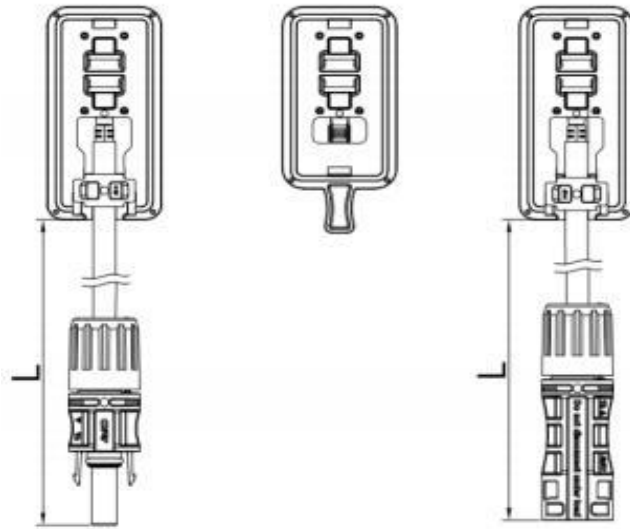

Fig. 8 The half-cut cell module/ split junction box
- l) The length of the junction box shall be determined according to the component specifications and the customer's design proposal. As shown in Figure 8 below, consider the length of the lead wire before designing the wiring.